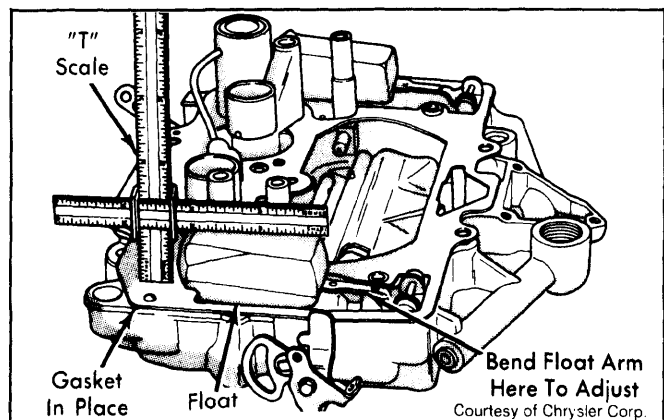

Fig. 1: Float Level Adjustment
1) Turn air horn up-side down. Place air horn gasket in position on air horn. Ensure floats are against seated needle valve. See Fig. 1.